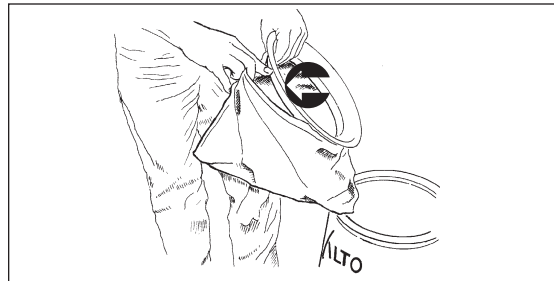

Figure 8
6. Put Dacron filter around the cloth filter. (See Figure 8)